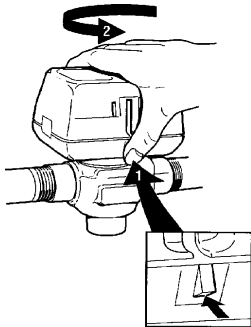

Figure 2 - Latch Mechanism to detach Actuator
1. The actuator head is automatically latched to the valve. Align the coupling hole in the bottom of the actuator with the valve stem. Press the actuator down towards the body with moderate hand force and turn the actuator counter-clockwise by 1/8 turn (45 degrees) to line up the actuator with the piping. The latch will click when engaged. See Figure 2.